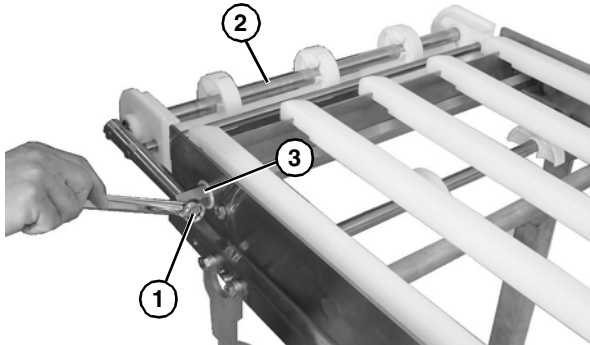

Figure 60
1. Remove bolt (**Figure 60, item 1**) from each side, and remove idler tail assembly (**Figure 60, item 2**) from take up blocks (**Figure 60, item 3**).